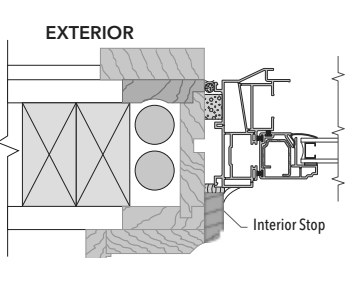
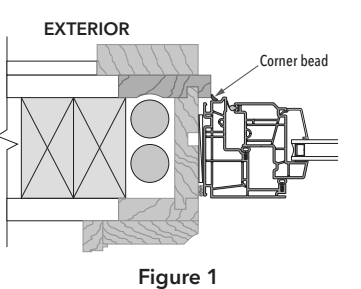

Figure 1
Figure 2
- A. If the space between the new window frame and the opening is greater than 1/4", go to step (B). If less than 1/4" or if the frame does not project past an exterior stop (Figure 1), skip to step (C).
- C. Apply a continuous bead of sealant where the new frame contacts the exterior stop (Figure 1) or between the frame and the opening (Figures 2, 3 and 4). Continue the seal across the bottom of the sill adapter (if applicable). Do not block weep holes or weep hoods with sealant.